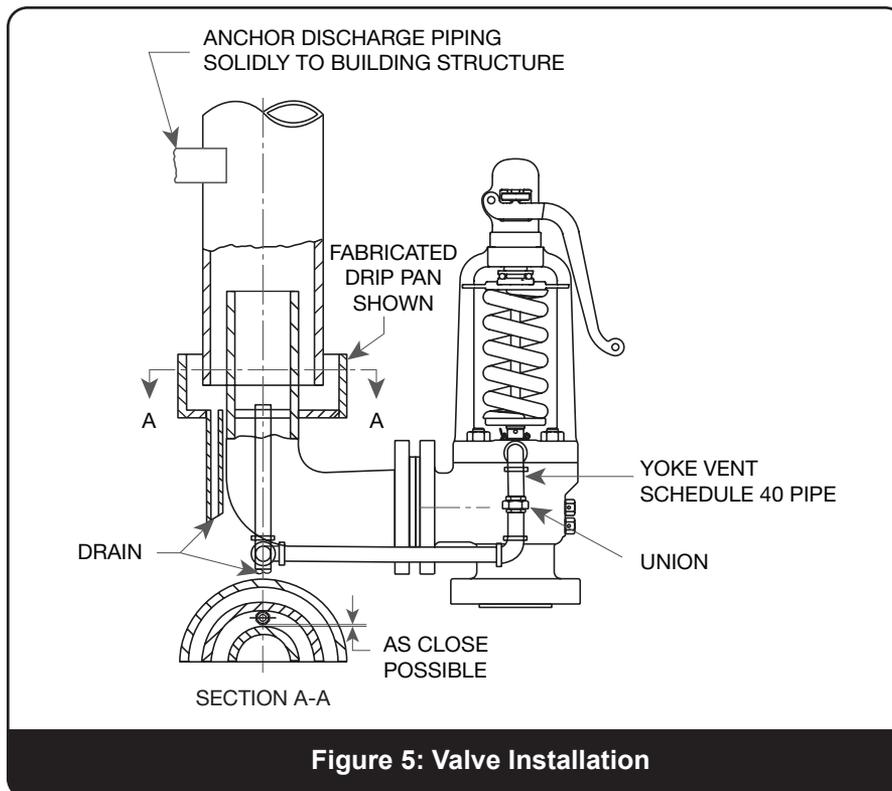

Figure 5: Valve Installation
1. The downstream corner of the header nozzle must be rounded to a radius of not less than .250” (6.35 mm) of the opening diameter. (See Figure 5.)
3. In cases where a piping configuration renders the above two recommendations impractical, or impossible, the downstream corner of the header nozzle inlet should be rounded to a greater extent than the upstream corner. The header nozzle entrance should be rounded so the radius at the downstream corner will be equal to a minimum of one-fourth of the nozzle diameter. The radius should be reduced gradually, leaving only a small portion of the upstream corner with a smaller radius. (See Figure 5.)